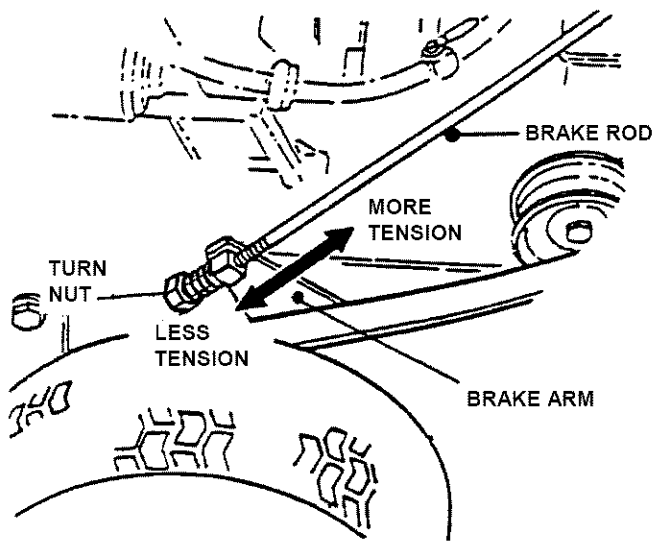

FIGURE 5.1
3. Turn nut clockwise to increase brake tension. See Figure 5.1.
1. Move the machine to a smooth, level surface and turn the engine OFF. Release the traction locks. Disconnect the Brake Rods from the Brake Arms. See Figure 5.1